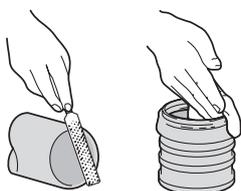

Fig.4a Filing pipe/lubricating seal
Step 1 – File square cut pipe to provide 45° chamfer. (Do not chamfer to a knife edge.) Lubricate rubber seal with 9136 Silicone Lubricant (Fig.4a)